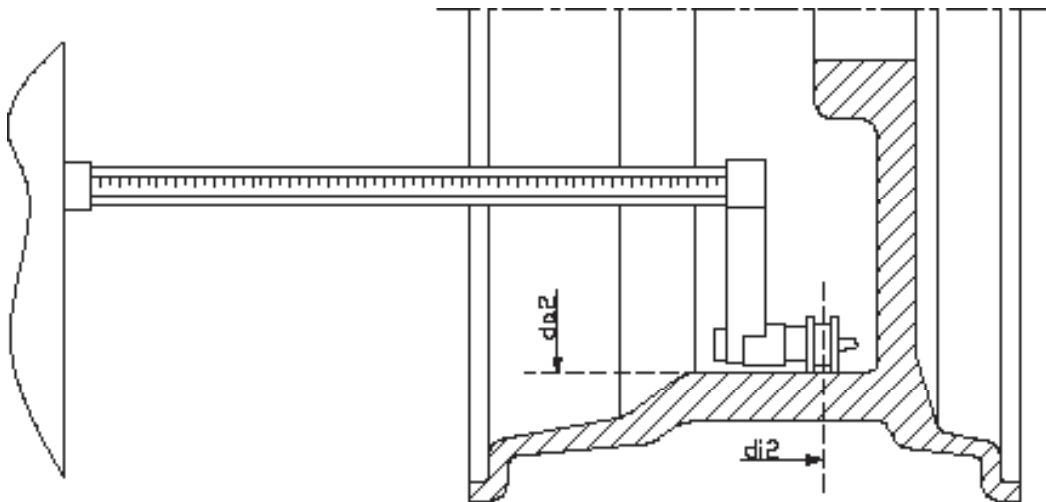

Figure F3.9 - Automatic acquisition of the external plane distance in the ALS1 and ALS2 Programme Type
4. Extract the Distance/Diameter sensor and place it on the plane chosen as the external plane. See figure F3.9;
6. Extract the Distance/Diameter sensor and place it on the rim corresponding to the external plane chosen to apply the balancing weight. See figure F3.9;